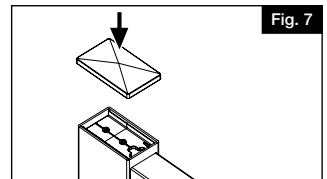

Fig. 7
Install upright caps onto the top of each upright with remaining vinyl cement (Fig. 7).
- b. Place curtain rods on interior side of posts (Fig. 7). Mount curtain rods to posts using included (2) 1" pan head screws per rod. Insert white caps to hide screws.
- Place post tops on top of posts. Use glue or post top clips to create a stronger bond (Fig. 7).